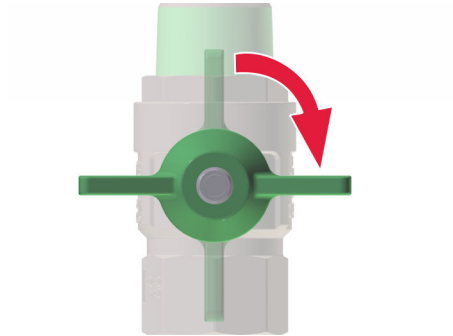

Fig. 37: Closing the main shut off valves
1. ➔ Close all main shut off valves (Fig. 37) on the fresh water station.